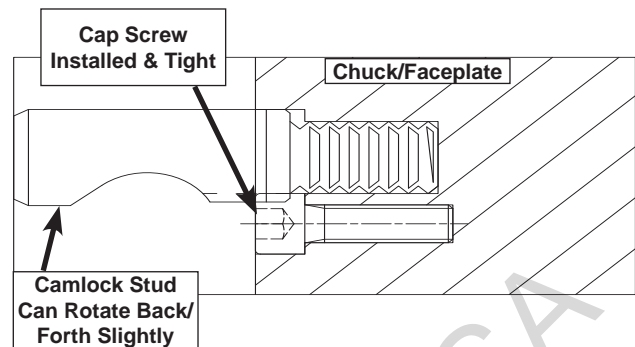

Figure 29. Camlock stud cap screw correctly installed.
5. Make sure that the cam-lock studs can rotate back and forth against the head of the locking cap screw (see **Figure 29**).